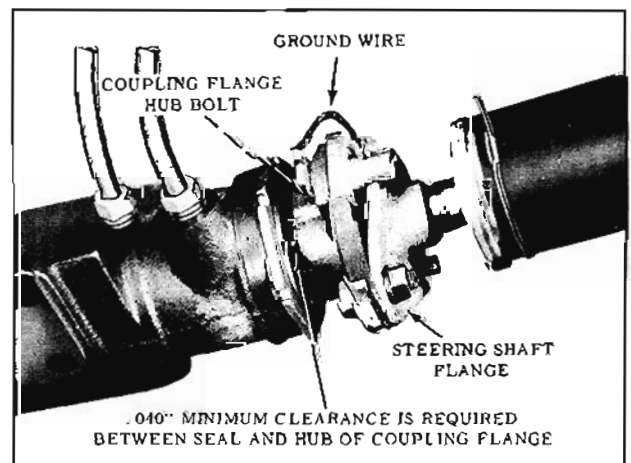

Fig. 8-40 Flex-Coupling
1. Remove the coupling flange hub bolt. (Fig. 8-40)